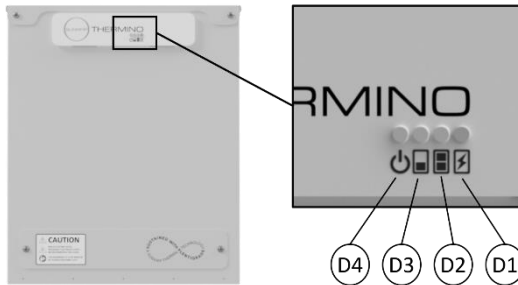

Figure 13 - Thermino ePlus Heat Battery LED operation
7. Check the front of the Heat Battery to ensure that the “power” and “heating element” LEDs are lit (see Figure 13 & Table 9).